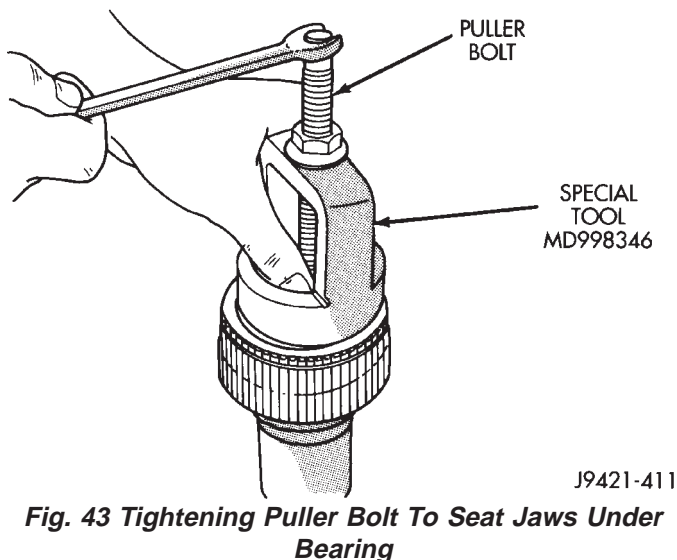

Fig. 43 Tightening Puller Bolt To Seat Jaws Under Bearing
(28) Inspect condition of needle bearing in input gear. If bearing is rough/noisy, worn, or brinnelled, remove bearing as follows:
- Turn bolt of Puller MD998346 to retract puller jaws. Then position puller jaws under bearing (Fig. 43).